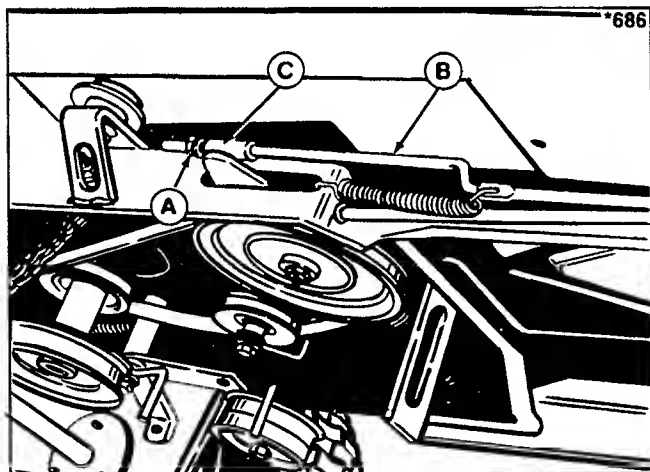

Figure 16. Clutch Adjustment
3. Set the nut (A, figure 16) on the clutch rod (B) so there is 1/4 to 5/16 inch (6.3 to 7.9 mm) clearance between nut (A) and rod guide (C).